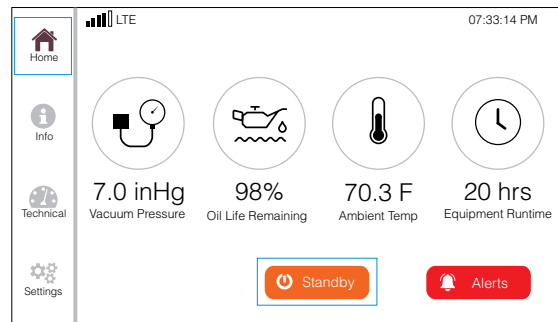

FIGURE 62. PRESS STANDBY
- 12. On the Home screen, press **STANDBY** to turn the system ON (FIGURE 62).